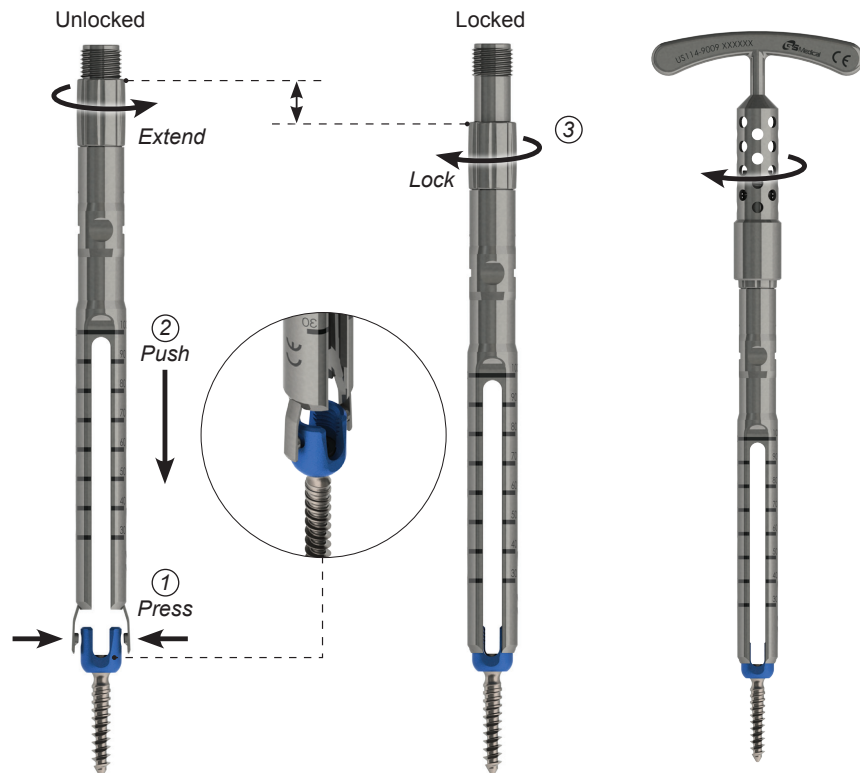

Figure 1
**Tower Assembly** – Verify that the tower tangs are fully extended. The silver knob (fig. 1) at the top of the instrument controls the tangs extension. Carefully engage the polyaxial screw head to the tangs on the distal end of the tower ensuring that the tangs match the holes on the screw and slide sleeve down till the tangs are fully retracted into the tower. Use the Universal Tool to lock the tower.